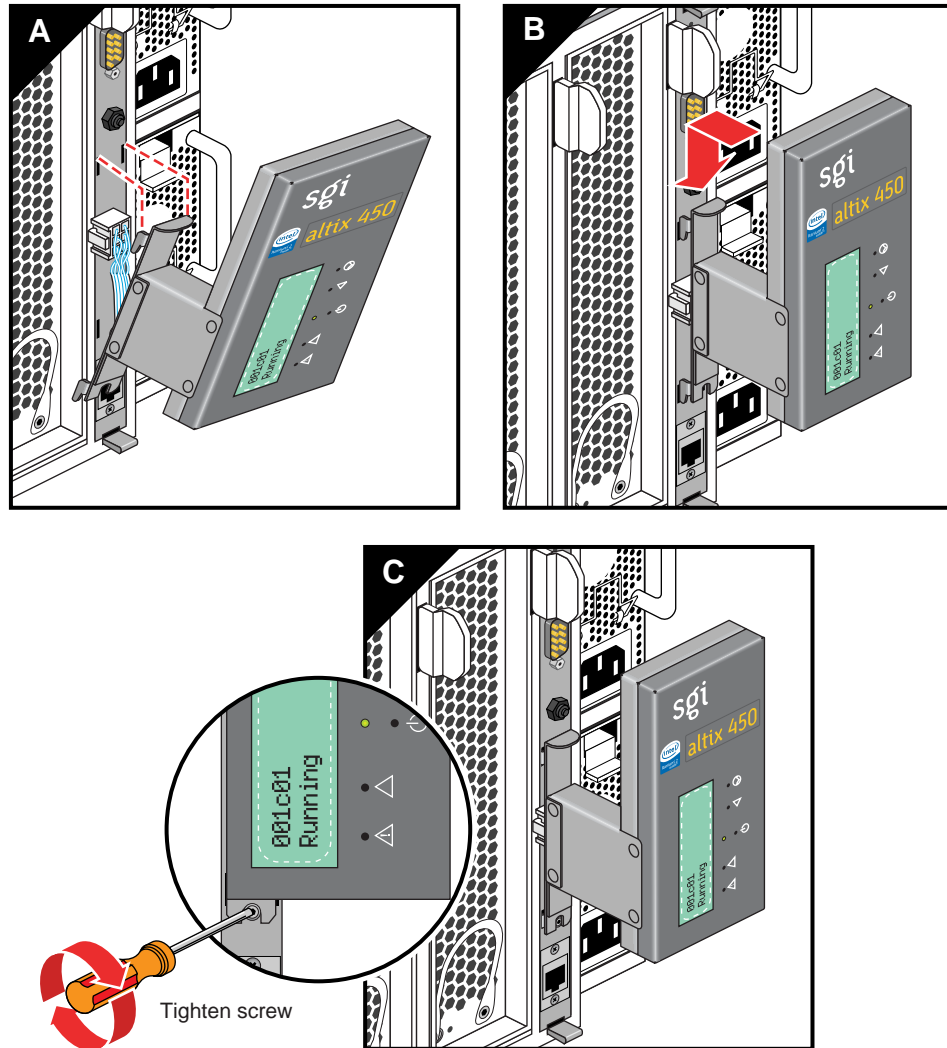

Figure 6-2 Replacing the L1 Controller Panel
2. Carefully slid it back into place, see Figure 6-2.